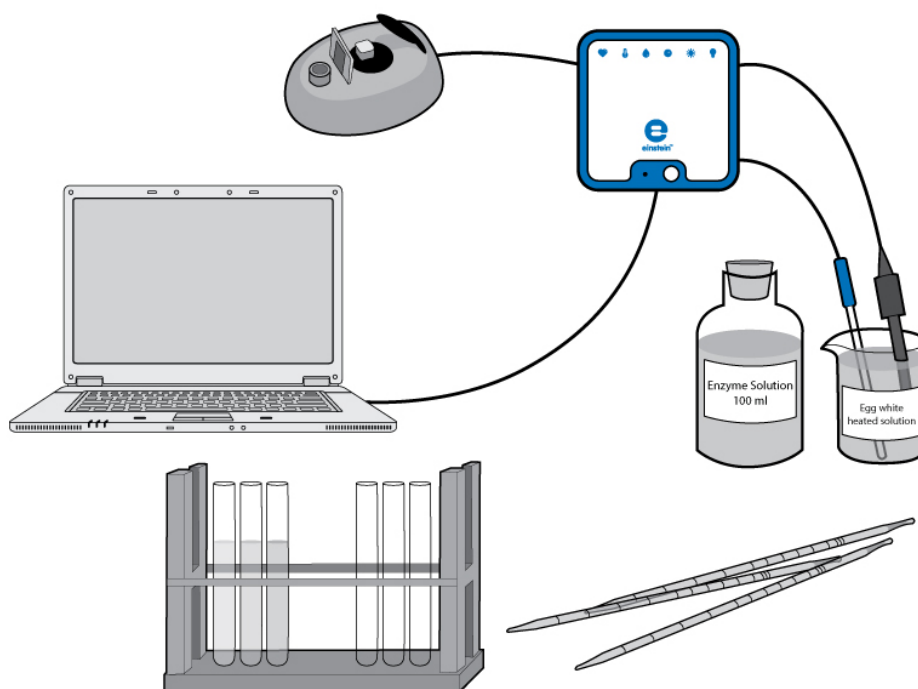

Figure 1
3. Assemble the equipment as illustrated in Figure 1 above.